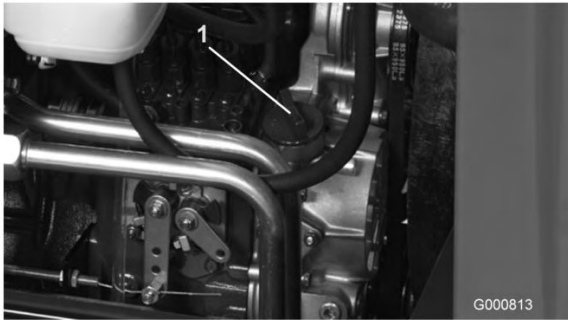

Figure 32
3. If oil level is low, remove filler cap (Figure 32) and add oil until level reaches FULL mark on dipstick. Do not overfill.